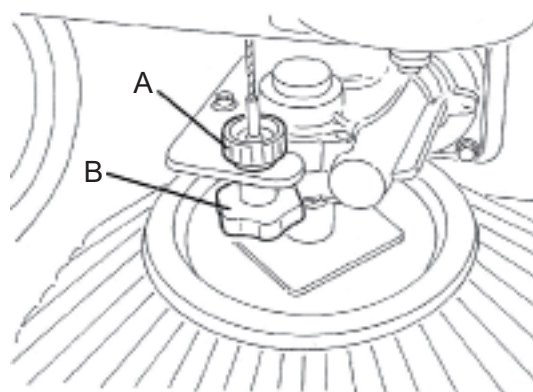

Figure7
3) Loosen the knob (A, Fig. 7) positioned above the brush.
4) Turn the knob (B, Fig. 7) and remind that: